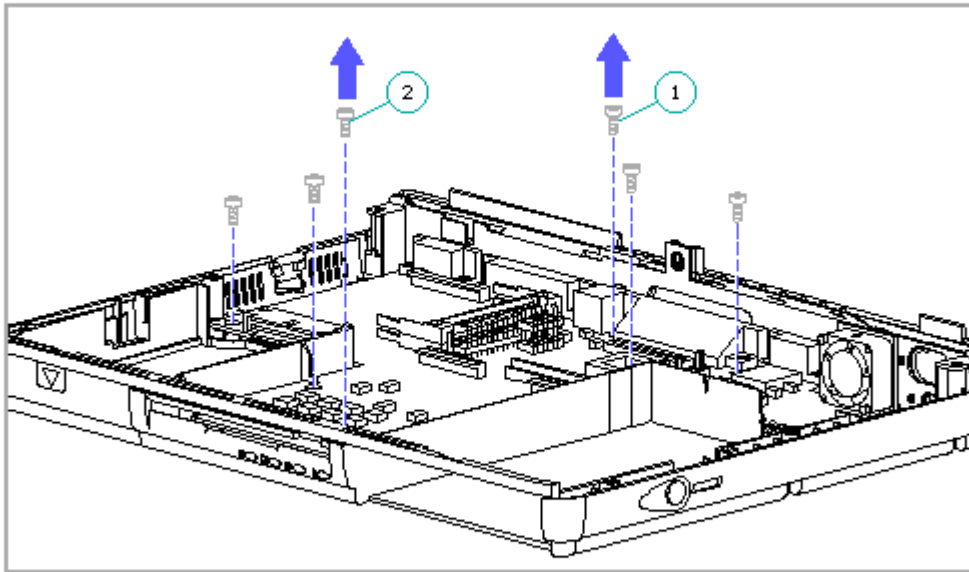

Figure 4-47. Removing the System Board Screws
16. Remove the six screws that attach the system board to the computer base enclosure (Figure 4-47).
IMPORTANT: To ensure proper alignment when replacing the system board, replace the screw noted as [1], then replace the screw noted as [2], then replace the other four screws (Figure 4-47).